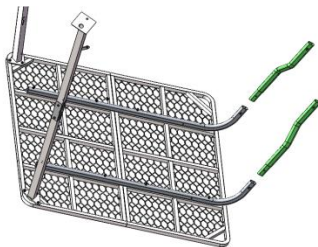

Figure 7
Step 7: Insert the two ladder extension tubes (TS305.20) into the two platform braces (TS305.18). (**Figure 7**).